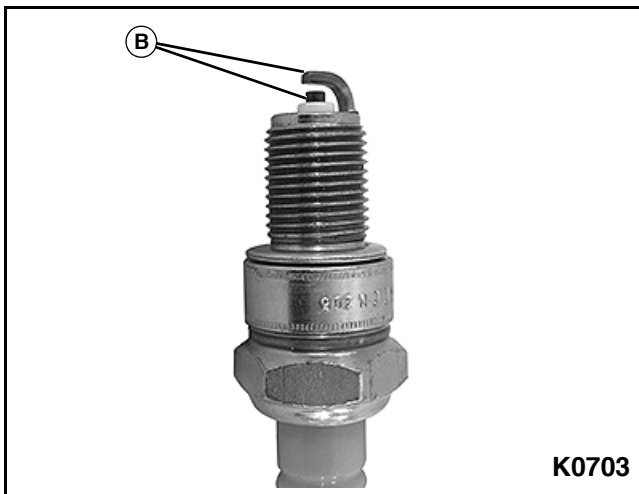

Figure 5-20
6. Inspect the electrodes (B) on each spark plug. See Figure 5-20. The electrodes should be light brown. If the electrode appears to be burned, covered with soot, or fouled with oil, replace the spark plug.